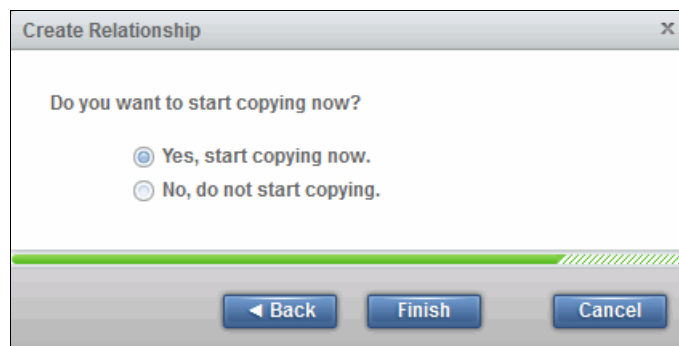

Figure 10-105 Choose if you want to start copying now or later
- You can choose to start the initial copying progress now or wait to start it later. In this example, we select **Yes, start copying now** and click **Finish**, as shown in Figure 10-105.